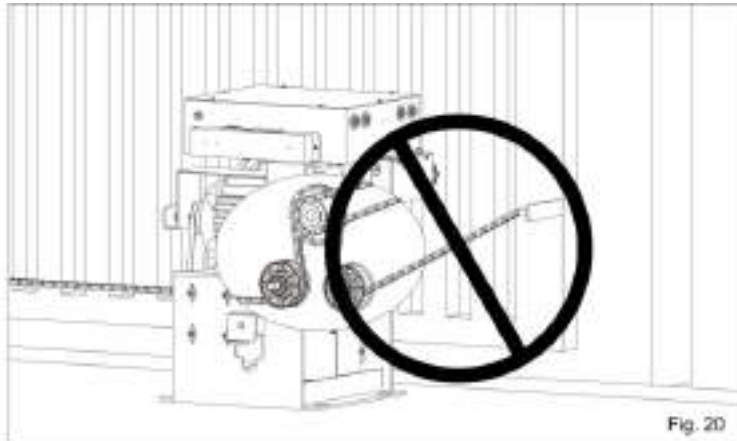
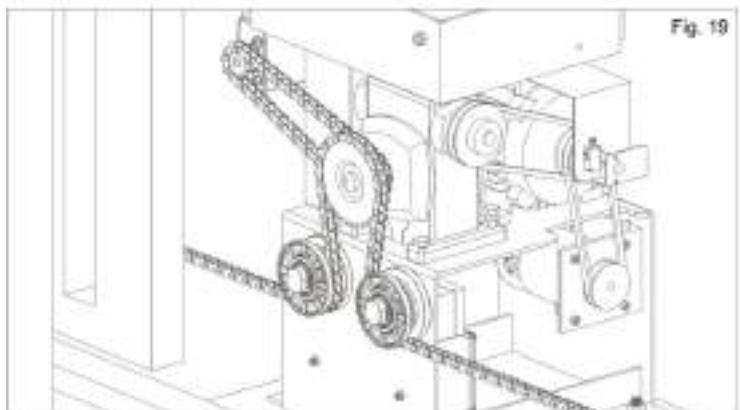

Fig. 20
Fig. 19
5.2. Install the chain making it pass through the pinion group as in fig. 19. The chain must be always in line both vertically and horizontally, if not perfectly aligned (fig. 20 and 21) it may derail from the pinion group or the motor reducer risks a greater effort not allowing the right operating of the system.